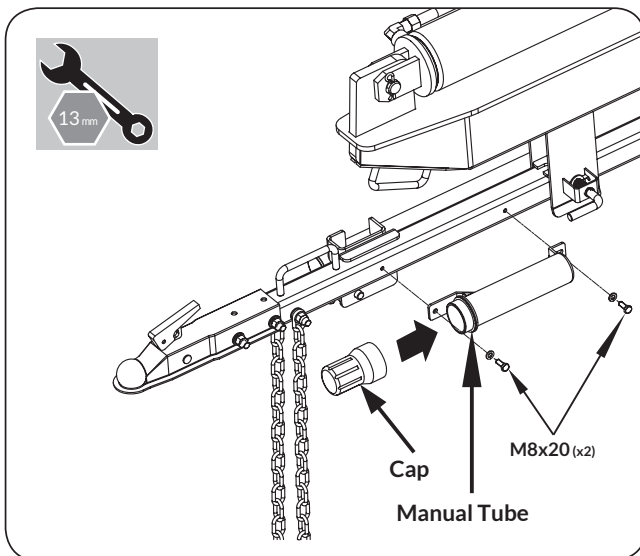

Figure 9
1. Remove the cap from the manual tube. Align the holes in the manual tube with the holes in the tow bar. Insert and tighten bolts and washers. (See Figure 9)